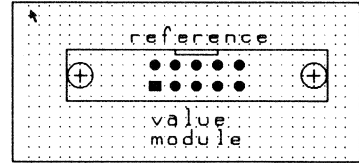

Figure 5-10. Pointer position for start of **BLOCK** command.
1. Place the pointer above and to the left of the module, as shown in figure 5-10.